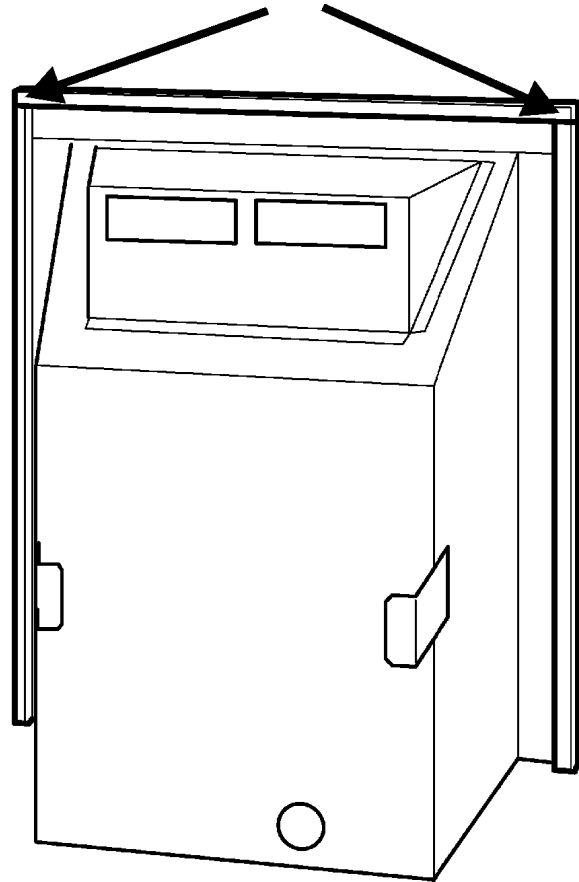

Figure 15. Fitting the foam seal
9. There is a length of self adhesive foam seal supplied with the fire. This will need to be fitted to the outer rear edges of the side and top flanges of the convection box. Cut a 485mm length of foam seal. Be careful not to stretch the seal when measuring. Remove the protective backing from the foam seal and fit this to the rear of the top flange (See figure 15). Cut two 580mm lengths. Fit these to the rear outer edges of the side flanges. Ensure that there is no gap between the foam seals where they meet at the top flange (See figure 15)